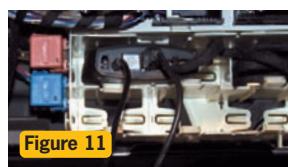

Figure 11
**11.** Connect the applicable harnesses to the MediaBridge control unit; the main vehicle connection harness, USB (for the iPod), Auxiliary input (for input of MP3 or other devices) and microphone (for Bluetooth phone operation). Slide the control unit into the mounting rack. Tuck the vehicle connection harness into a vacant slot in the mounting rack (fig. 11).